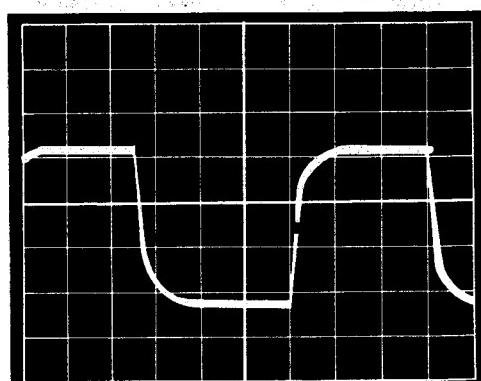

Fig. 4-1.
- Adjust R731 so that the PG pulse appears midway between the positive and negative peaks. See Fig. 4-1.